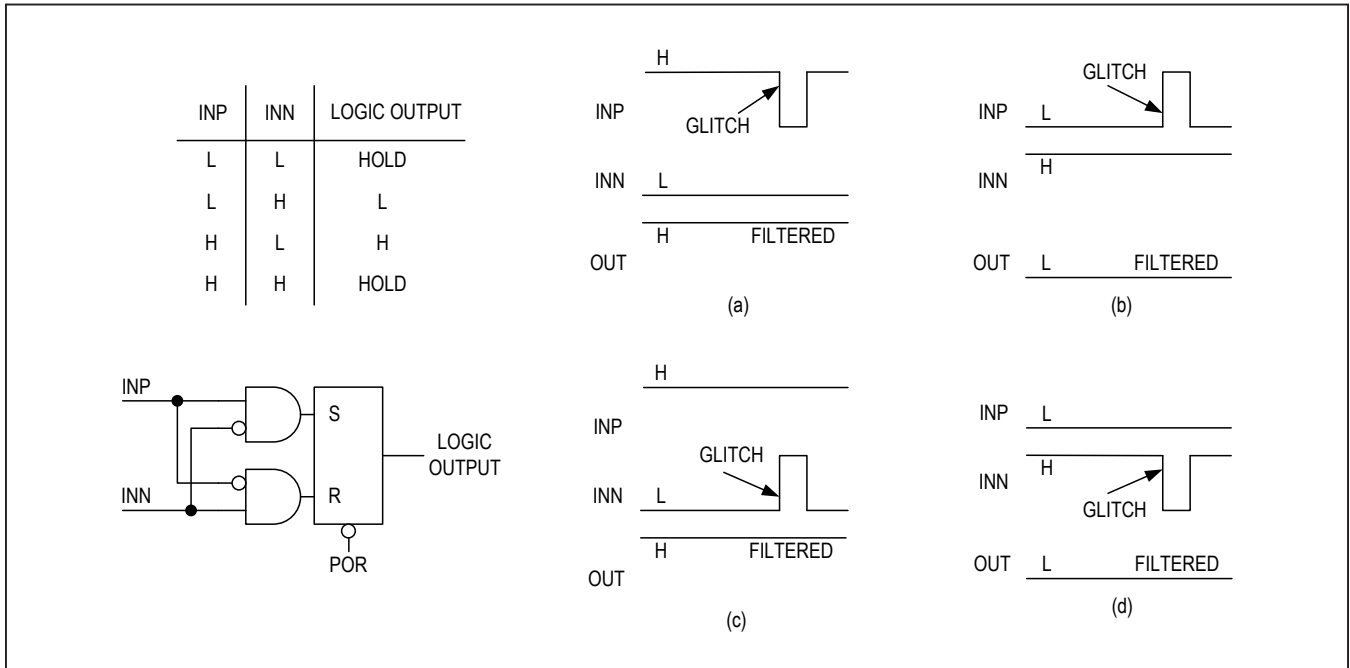
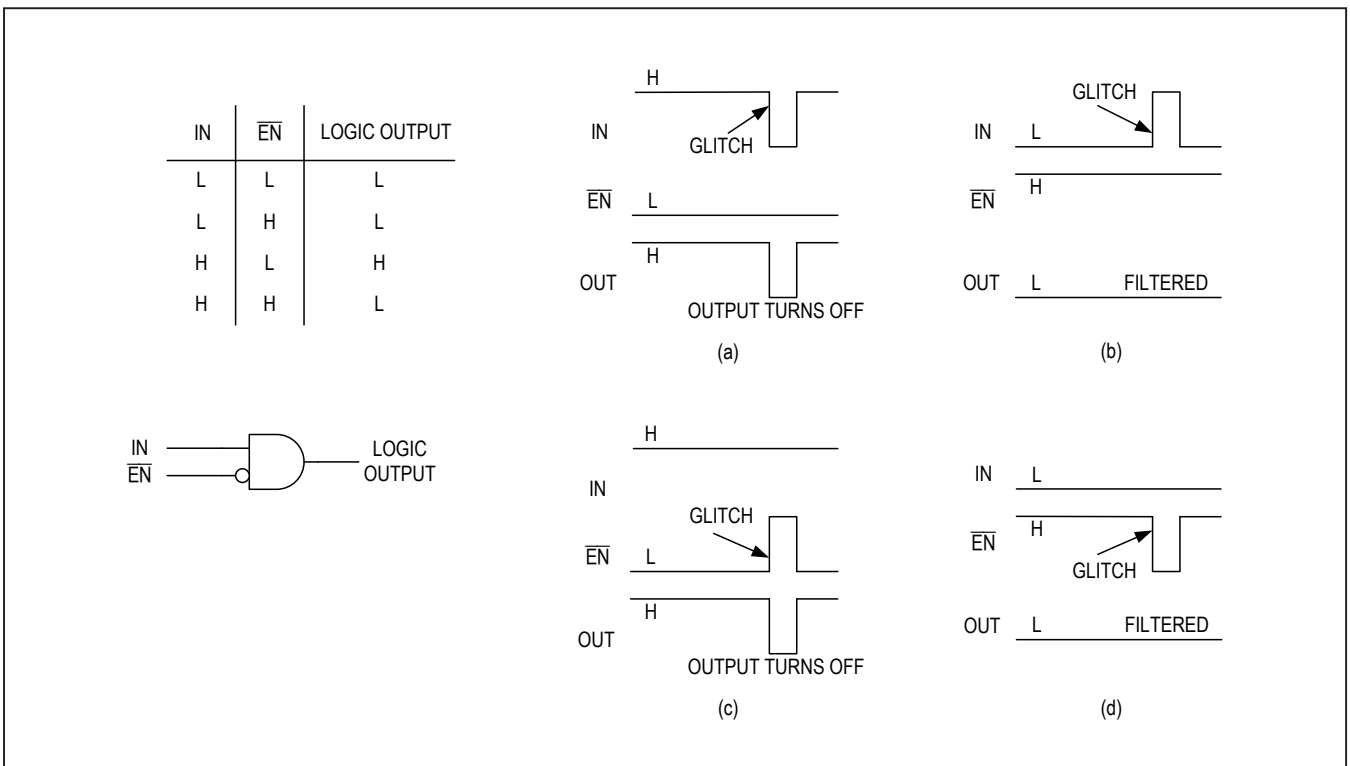

Figure 5. MAX2270\_D Differential Inputs
Figure 6. MAX2270\_E Single-Ended Input with Enable
The MAX2270\_D features differential PWM inputs (INP and INN). The differential inputs reject input glitches and prevent false turn-on of the output. The output will hold the previous value when a glitch is detected on either input (Figure 5). The MAX2270\_E features a single-ended input (IN) and an active-low input enable ( $\overline{EN}$ ). The  $\overline{EN}$  pin allows the output (OUT) to be quickly set to logic-low, turning off the external power transistor. The output remains at logic-low until the PWM input (IN) receives a logic-high signal (Figure 6).